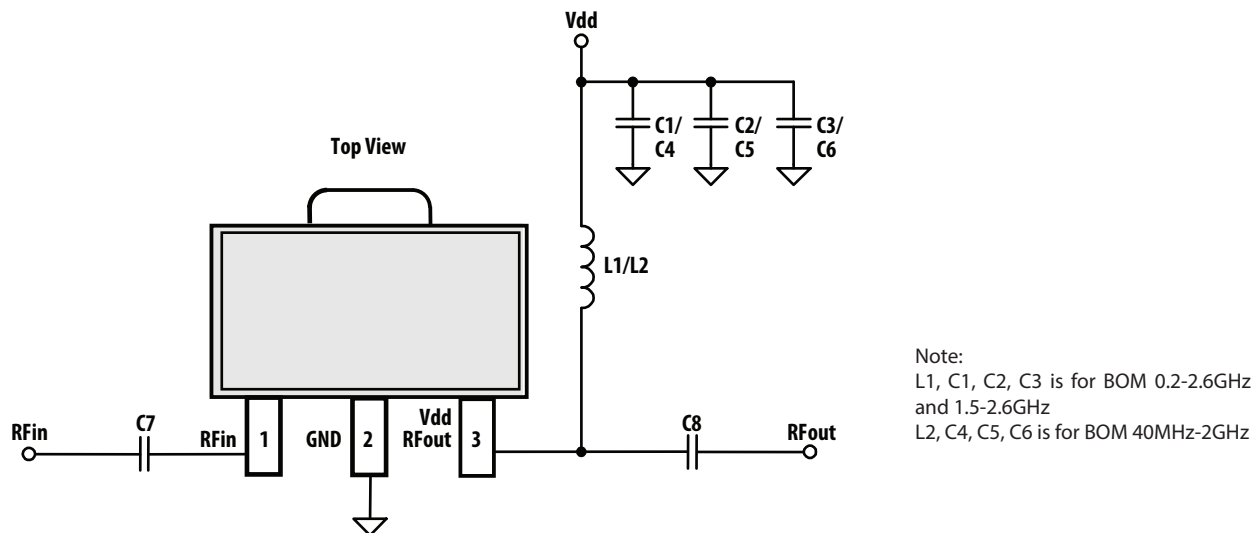

Figure 30. Application Schematic
1. Measurements obtained using demo board described in Figure 30 and 31. 40MHz data was taken with 40MHz - 2GHz Application Test Circuit, 900MHz data with 0.2GHz – 2.6GHz Application Test Circuit and 1.95GHz data with 1.5GHz - 2.6GHz Application Test Circuit respectively.
$T_A = 25^\circ\text{C}$, $V_{DD} = 5\text{V}$, Input Signal=CW. Application Test Circuit is shown in Figure 30 and Table 1.
$T_A = 25^\circ\text{C}$, $V_{dd} = 5\text{V}$, Input Signal=CW. Application Test Circuit is shown in Figure 30 and Table 1.
$T_A = 25^\circ\text{C}$, $V_{dd} = 5\text{V}$, Input Signal=CW. Application Test Circuit is shown in Figure 30 and Table 2.
$T_A = 25^\circ\text{C}$, $V_{dd} = 5\text{V}$, Input Signal=CW. Application Test Circuit is shown in Figure 30 and Table 3.
$T_A = 25^\circ\text{C}$, $V_{DD} = 5\text{V}$, Input Signal=CW. Application Test Circuit is shown in Figure 30 and Table 3.